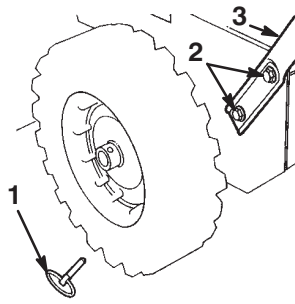

Figure 2
2. Remove the axle pins from both wheels (Fig. 2) and slide the wheels outward on the axle approximately one inch (2.5 centimeters).
5. Align the holes in the left side of the handle assembly with the holes in the left side plate, and secure the handle with two cap screws and curved washers until they are finger tight (Fig. 2).